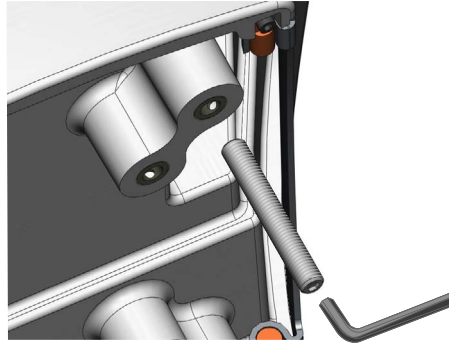

Figure 2
3. Use a 5 mm Allen wrench to install the M10 x 71 mounting studs (Figure 2) in the pedestal matching the hole pattern that was selected. Tighten the mounting studs until they bottom out in the pedestal. Do not overtighten the studs to avoid damaging the pedestal. The mounting studs have a thread-locking patch applied at the factory.